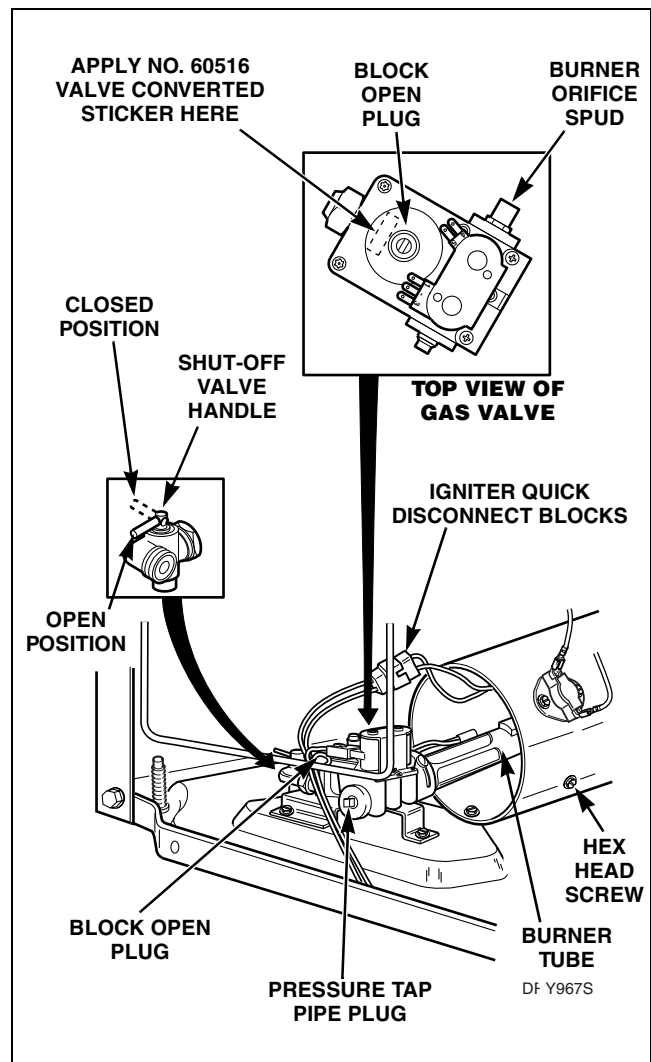

Figure 48
- Disconnect igniter wires at quick disconnect blocks. Refer to *Figure 48*.
- Remove hex head screw holding burner tube and igniter in place. Refer to *Figure 48*.
- Remove the block open plug and install No. 58768 Vent Screw. Refer to *Figure 48*.
- Install No. 60516 “Valve Converted to Natural Gas” Sticker to top side of gas valve so it covers the gas valve part number. Refer to *Figure 48*.
- Turn the gas line shut-off valve handle to the open position and connect electrical service. Refer to *Figure 48*.
- Remove pressure tap pipe plug. Refer to *Figure 48*.
- Stop dryer and remove “U” tube and reinstall the pressure tap pipe plug. Refer to *Figure 48*.